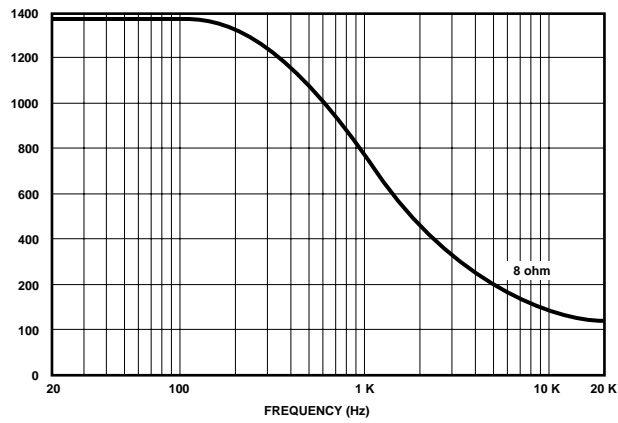

Figure 2.6 Typical Damping Factor
**Damping Factor:** Greater than 1,000 from 10 Hz to 400 Hz (see Figure 2.6).